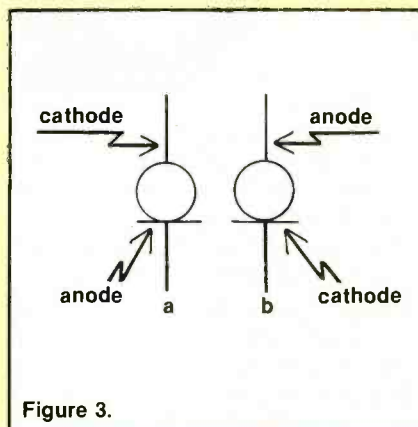

Figure 3.
6. Which of the constant-current diode symbols in Figure 3 is properly labeled?